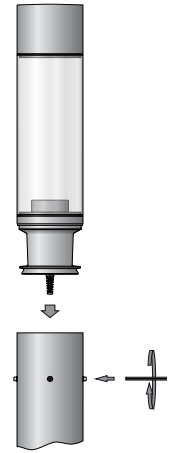

Figure 2:
6. Install luminaire head and secure into place by tightening set screws. (Figure 2)